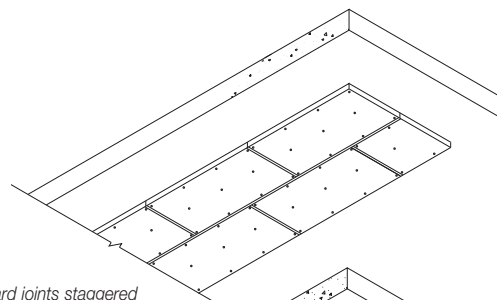
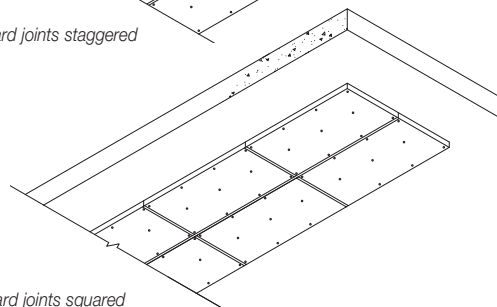

Figure 5 Board joints staggered
Figure 6 Board joints squared
2. Board joints can be either staggered (see Figure 5) or squared (see Figure 6) and taped with 96 mm wide silver *Kingspan* Insulation Tape.